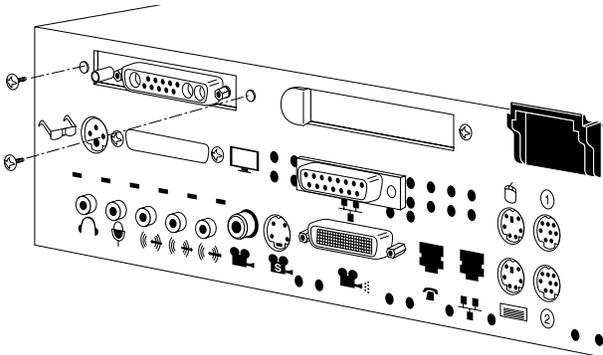

Figure 2-5 Removing the Exterior Screws for the X Board
- 2. On the rear of the workstation, remove the two screws that secure the X board to the chassis as shown in Figure 2-5.